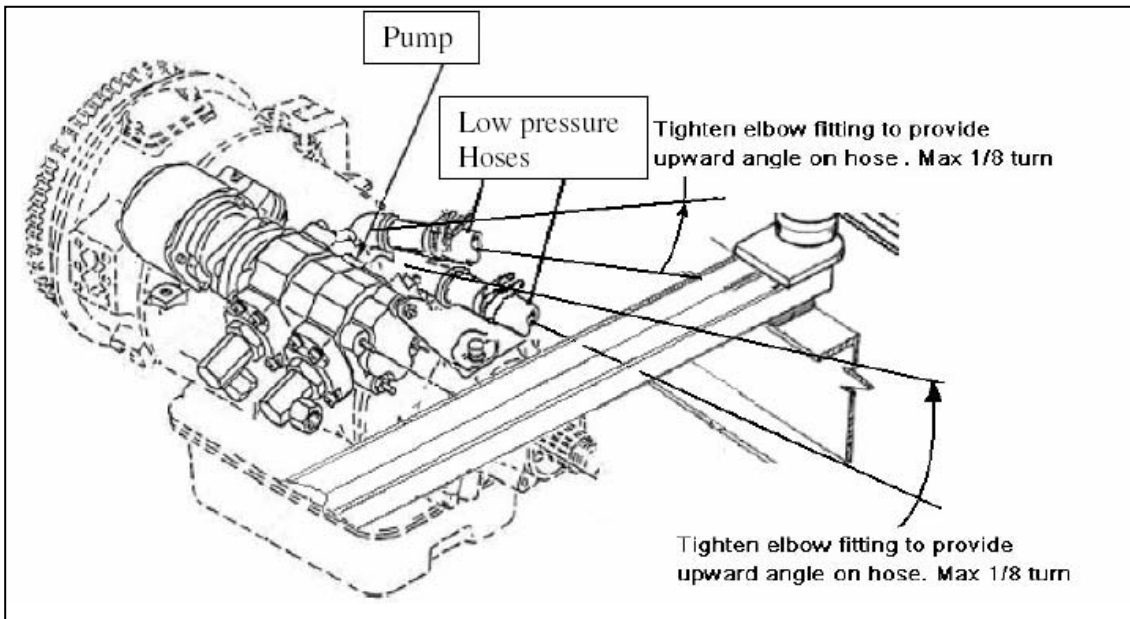

Figure 7-1. Elbow Adjustment.
1. Disconnect the P-clips that hold the low-pressure hydraulic hoses that feed the pump located on the transmission (These hoses are indicated in Figure 7-1).
2. Turn the low-pressure hydraulic line elbows connected to the pump on the transmission in a clockwise fashion (tightening) up to 1/8 turn to achieve more clearance under the hoses for the cab support (see Figure 7-1). Access to these elbows is best achieved through the removable panel on the floor beneath the shift tower.